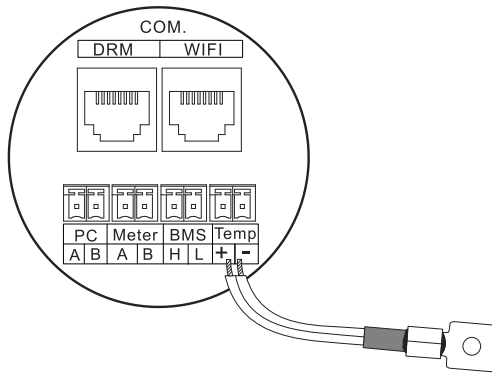

Figure4-21 Battery temperature sensor wiring
- Step 5 Draw "+", "-" wire of battery temperature sensor(The recommended type is 10k Ω NTC, such as 10KF3435, 103AT etc.) through communication cover to TEMP terminals and connect the other end of battery temperature sensor with the lead acid battery, as shown in Figure4-21.